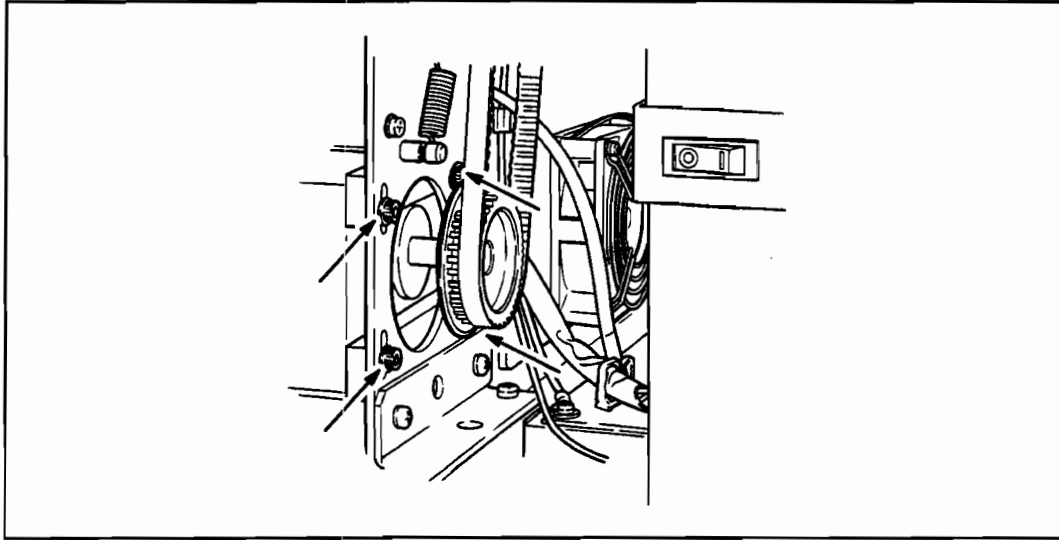

Figure 6-61. Drive Motor Belt Removal
1. Switch the plotter OFF (O) and disconnect the ac power cord and interface cable.
3. Using a 4 mm Allen wrench, loosen the drive motor mounting screws. See Figure 6-61.